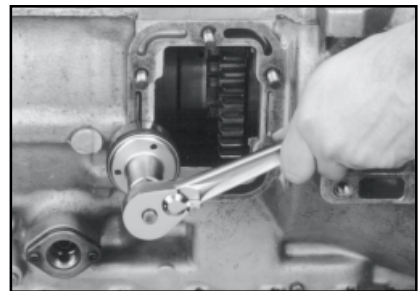

Figure 3
3. Install the proper studs in the P.T.O. aperture pad using a stud driver or wrench (Fig 3).